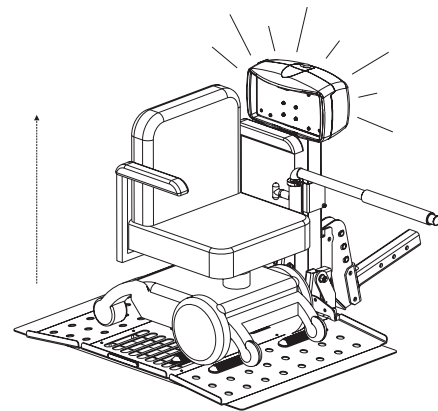

Figure 6-7
2. Raise the platform to top of travel until you hear the motor clutch. *See Figure 6-7.*